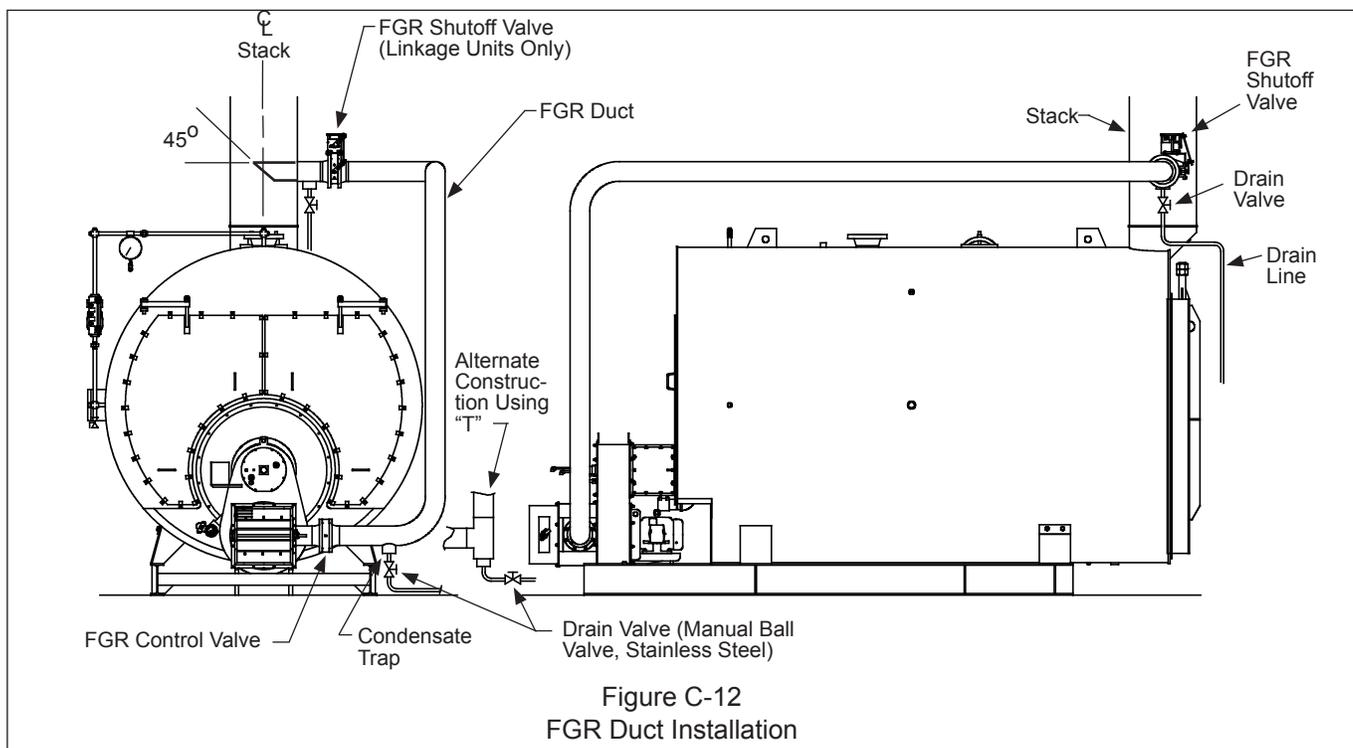

Figure C-12
For example, consider the arrangement shown in Figure C-12. There will be three 90 degree elbows (close radius) and 22 feet of straight pipe. If 8" pipe is used, then the total length will be:
a. Normally the duct would connect to the stack as shown in Figure C-12, with a 45 degree cut facing the flue gas flow and with the center of the cut centered in the stack. The duct could be made to the smoke box, but must still be located with the same 45 degree cut facing the flue gas flow stream and with the center of the cut in the center of the stream.